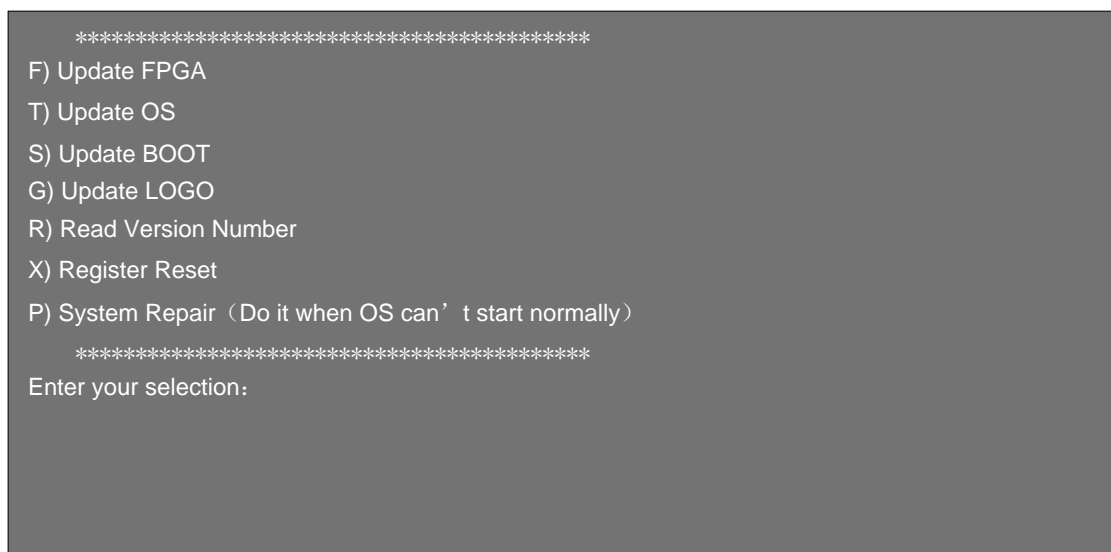

Fig. 4-4 Eboot Interface
- 4) As shown in Fig. 4-4 below, press T key to choose mirror image update. It starts updating and the whole process lasts for about 3 minutes.